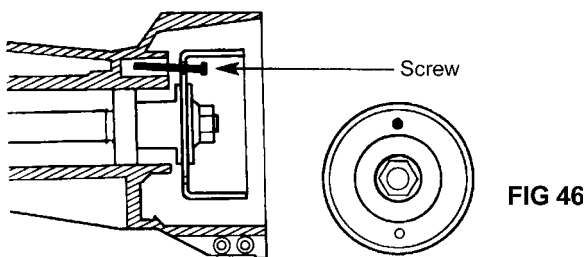

FIG 46
1. Slide long thin screw through hole in clutch drum and ribs in body casing. Unscrew flanged nut in anti-clockwise direction Fig 46.